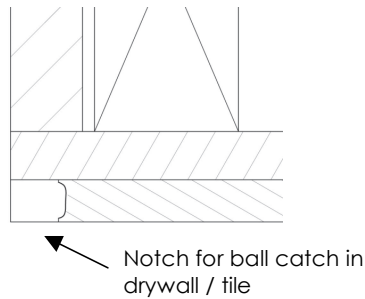

Fig 5.1
5. There is a ball-catch on the Lenox frame, which secures the door. For the catch to operate properly, a notch must be ground into the tile or drywall prior to frame installation. (See Fig 5.1) In order to mark the correct location for the notch, temporarily insert the Lenox Frame into the opening and mark the ball catch mechanism location. Clearance for the final shimming of the frame should be considered when positioning the notch. After marking the position, remove the Lenox frame.